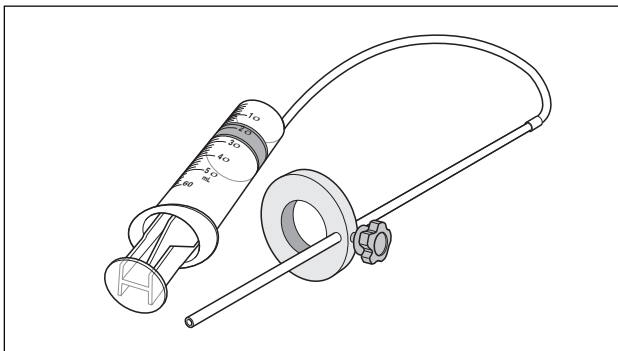

Figure 2-81. Front Fork Oil Level Gauge (HD-59000B)
- a. Obtain the FRONT FORK OIL LEVEL GAUGE (HD-59000B). See Figure 2-81.